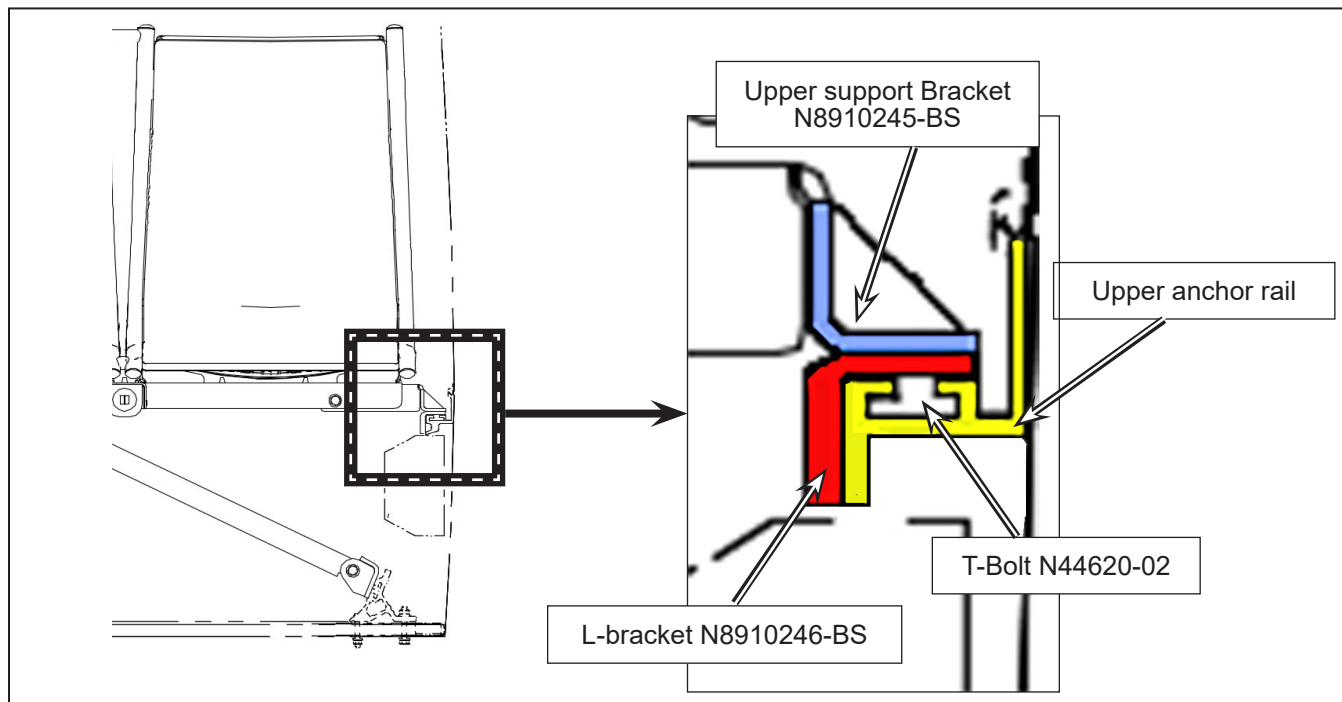

Figure 7 - Installation of L-bracket N8910246-BS
- j. Install all the N8910246-BS L-bracket on the N44620-02 T=Bolts installed in the upper anchor rail. See Figure 7.
- k. Install the removed seat(s) on the N8910246-BS L-bracket and the N44620-02 T-bolts installed in lower anchor rail. See Figure 7.